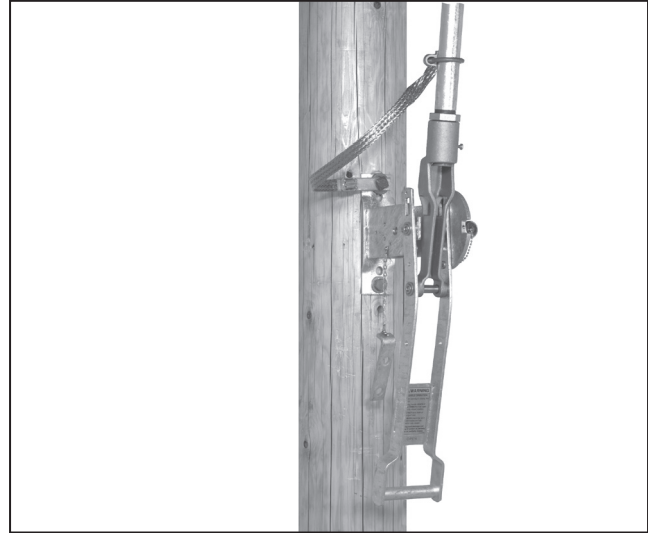

Figure 34. Withdrawing the locking bar and disengaging the key interlock bolt.
STEP 30. Remove the padlock from the locking bar on the operating handle assembly. Withdraw the locking bar. See Figure 34.